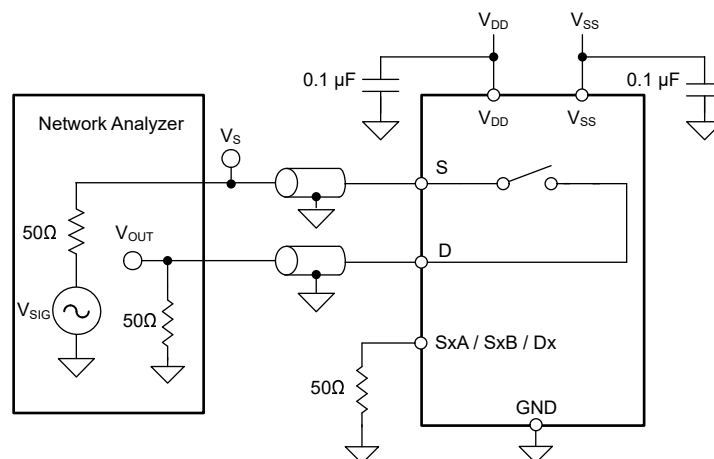

Figure 7-10. Off Isolation Measurement Setup
Off isolation is defined as the ratio of the signal at the drain pin (D) of the device when a signal is applied to the source pin (Sx) of an off-channel. Figure 7-10 shows the setup used to measure, and the equation used to calculate off isolation.